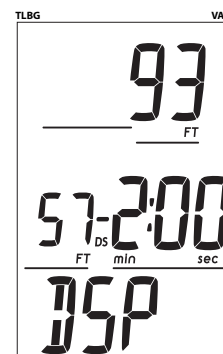

Fig. 56 - DS PREVIEW
**DEEP STOP (DS) PREVIEW** information includes (Fig. 56):